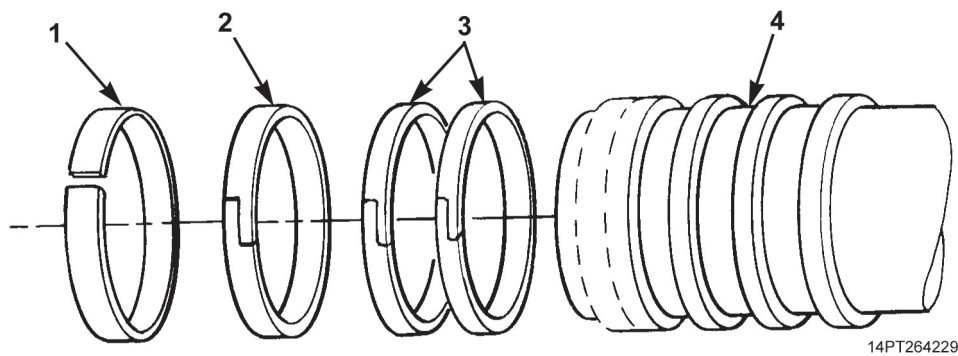

Figure 27. Piston Ring and Wear Ring Installation.
14. Install two piston rings (Figure 27, Item 3), piston ring (Figure 27, Item 2), and new wear ring (Figure 27, Item 1) on plunger (Figure 27, Item 4).